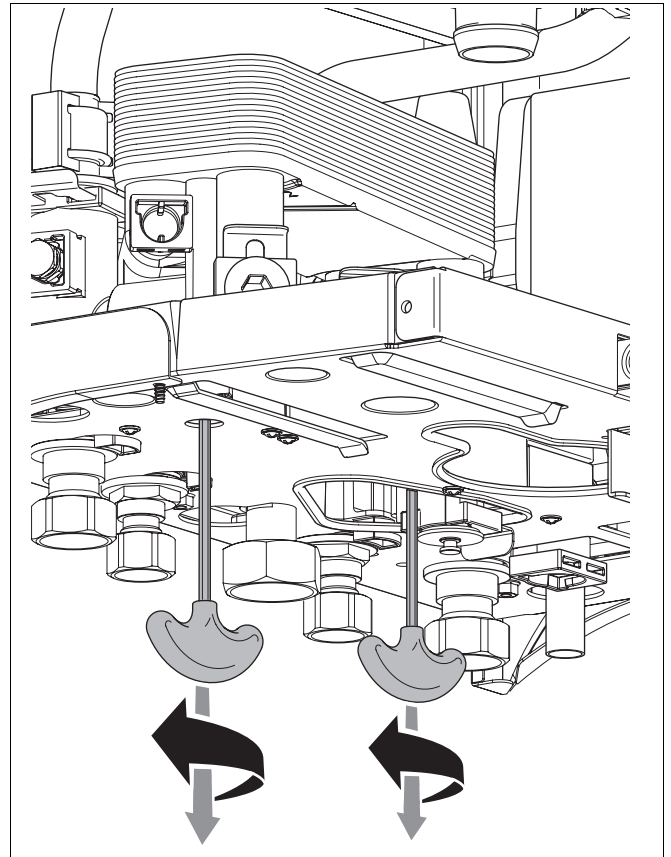

fig. 64 Remove screws of plate heat exchanger
- Remove the two screws of the plate heat exchanger (see fig. 64).